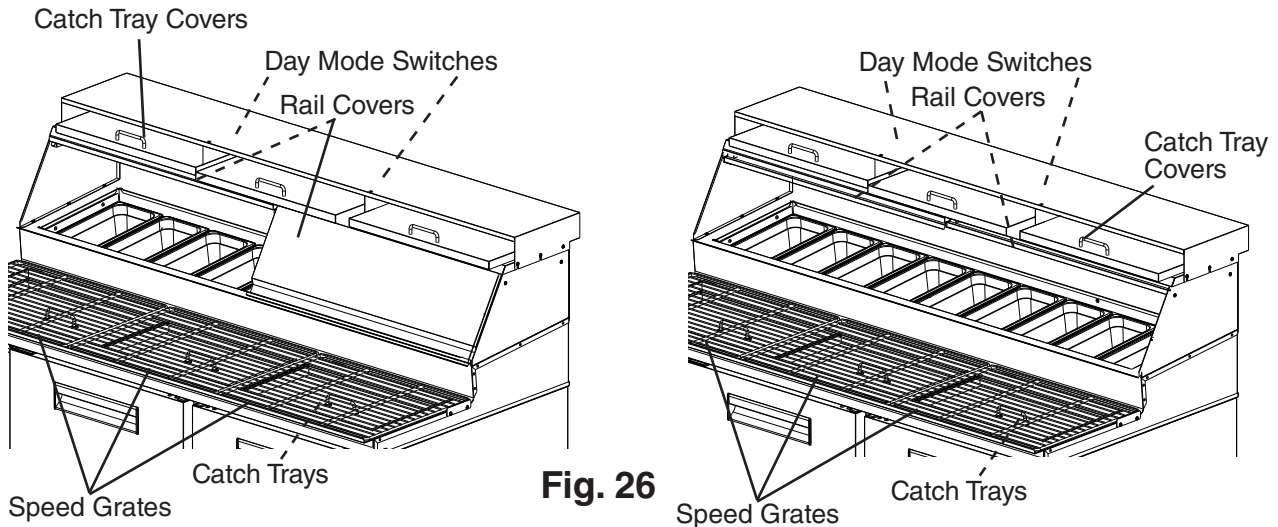

Fig. 26
b) **Day Mode Operation: Either One or Both Rail Covers Open;** With either one or both rail covers open, the rail day mode starts. The rail thermistor communicates to the rail/refrigeration control module to maintain the rail day mode temperature setting. See Fig. 26. **WARNING! To prevent night mode from engaging during day mode operation, make sure at least one of the rail covers (left or right) is open.**